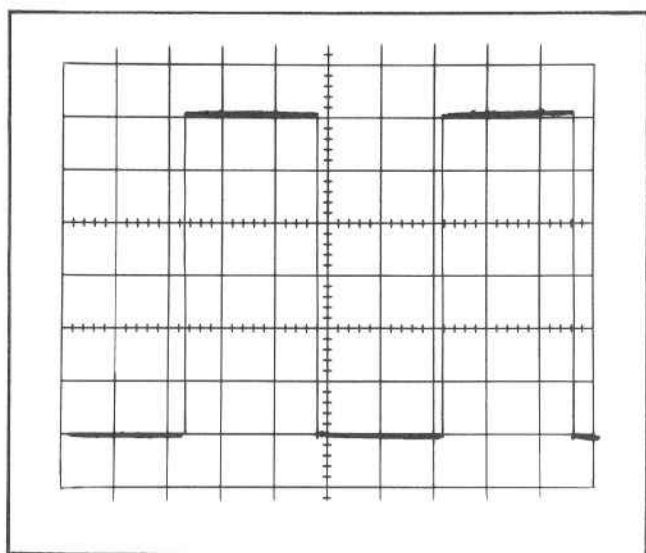

Fig. 5-5. Typical CRT display showing proper high-frequency response.
c. Check that the aberrations on the top of the square wave do not exceed 1.2 mm (See Fig. 5-5).